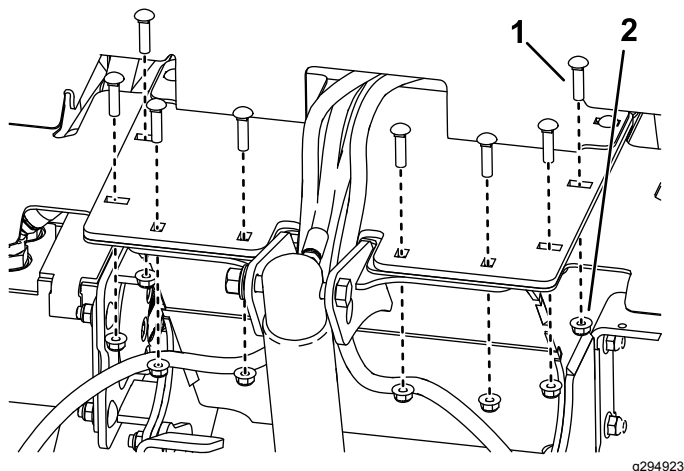

Figure 1
1. Remove and retain the fasteners securing the front of the deck plate as shown in Figure 1.